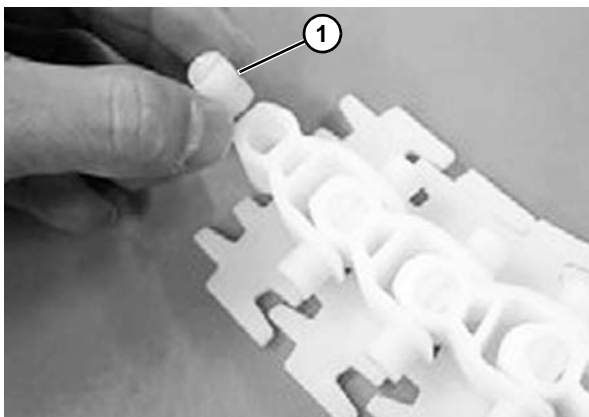

Figure 45
1. Insert the plastic pivot (**Figure 45, item 1**) with the slot facing outward.